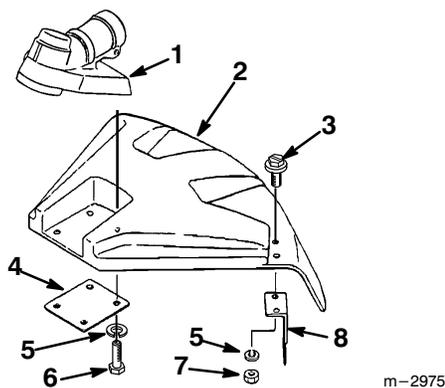

Figure 7
1. Fasten the string cutoff blade to the trimmer head shield with two M5 x 15 screws, lock washers and hex nuts as shown (Fig 7).
2. Attach the trimmer head shield to the gearcase with the four M5 x 12 screws and lock washers as shown (Fig 7).